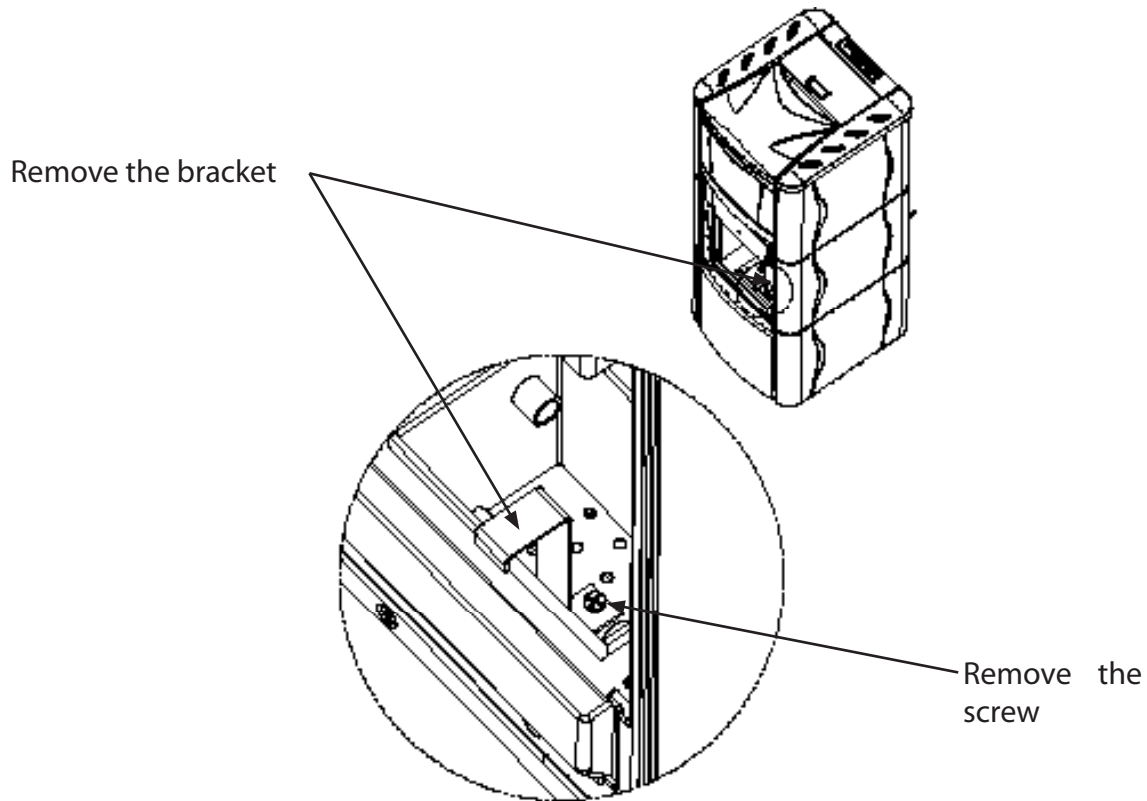

figure 10.5
3. extract the drawer and empty the ash (figure 10.5)